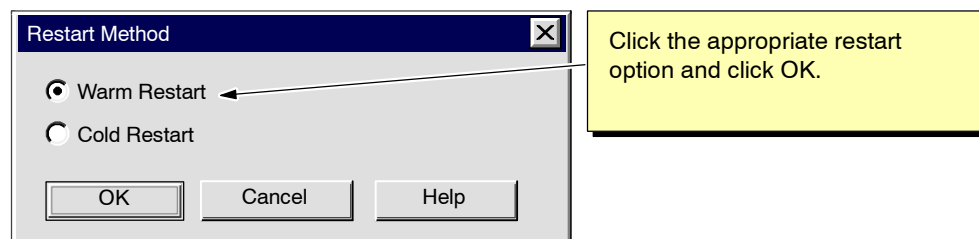

Figure 4-8 Selecting a Cold Restart or a Warm Restart
- When you use the menu commands (**CPU > RUN** or **CPU > RUN-P**) to change the operating mode, WinLC RTX displays the Restart Method dialog box that allows you to select a cold restart or a warm restart. See Figure 4-8. Select the type of restart and click OK.